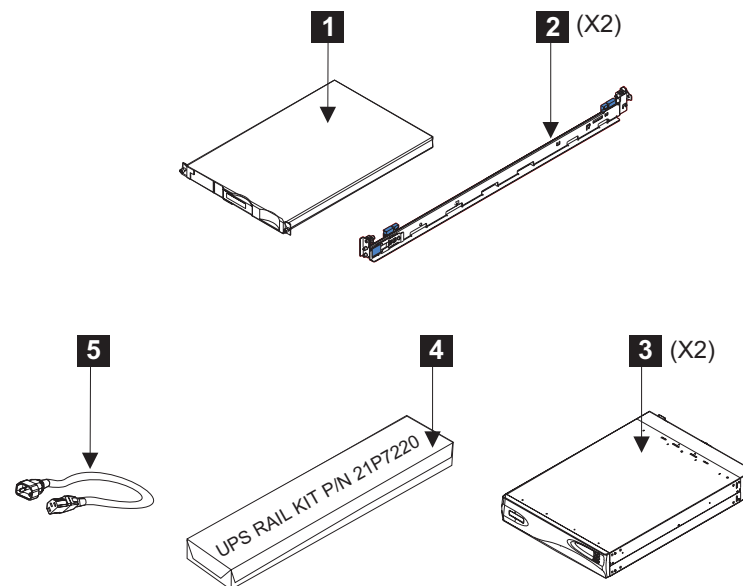

Figure 24. Parts provided for installation in the rack
1. Check all the parts and quantities against the parts shown in Figure 24. If any piece is missing, contact the appropriate IBM representative.